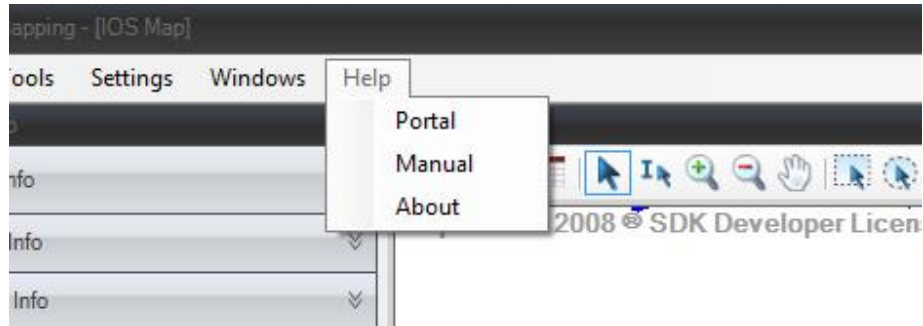

Figure 6 Help Drop Menu
- Green Fill: Site is ok (status = 1, shown on figure 6 next to circle 1)
- Orange Fill: Site has alarms (status = 2, shown on figure 6 next to circle 2)
- Red Fill: Site is locked (status = 3, shown on figure 6 next to circle 2)